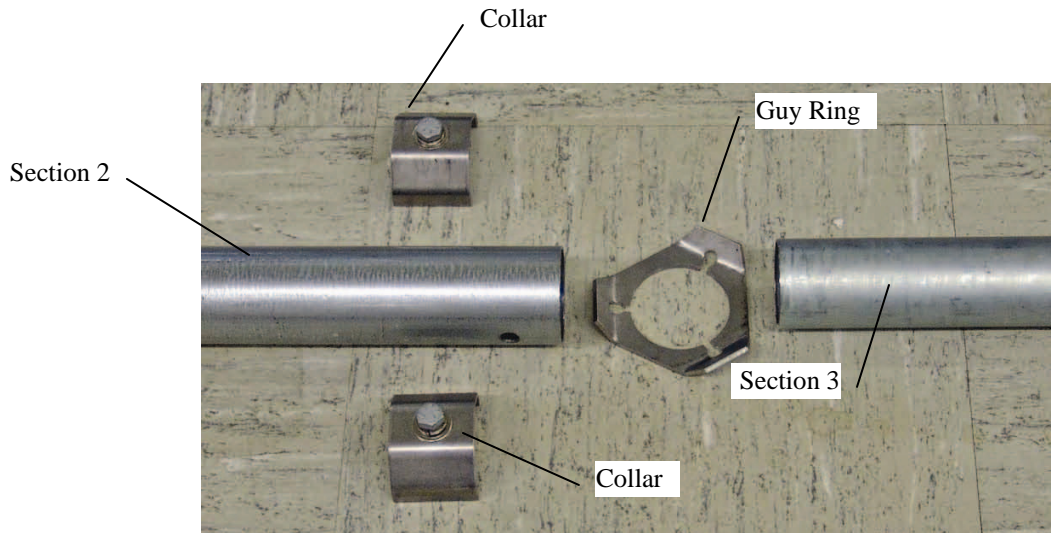

FIGURE 2.2-8. Guy Ring, Mast Section 2 and Mast Section 3
Step 8: Remove guy ring from bottom guy kit, PN 21663 (see Figures 2.2-8 and 2.2-9).